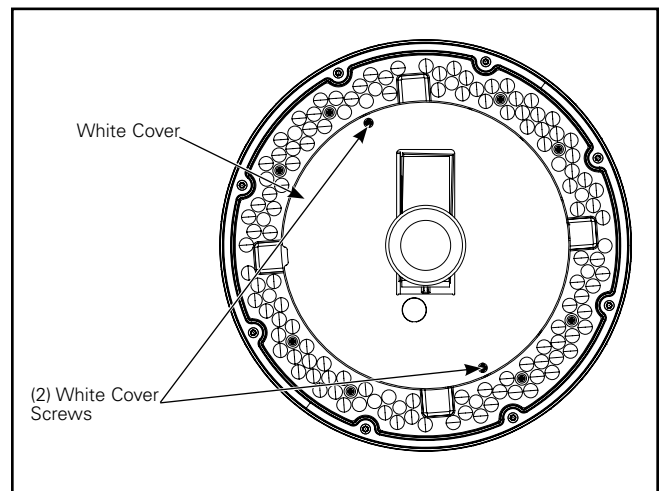

Figure 6.
2. Remove the 2 White Cover Screws that hold on the white cover (Figure 6). Set aside. Do not remove the LED lens covers.
8. Reinstall the white cover and two white cover screws that were removed in the step 2 (Figure 6). Tighten these screws to 5 in-lbs.